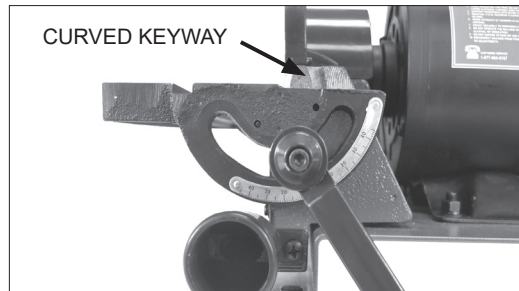

FIG. 10
24. Line the disc sanding table's slotted right end with the curved keyway in the sanding disc base. Position it in the keyway so that the handle can be installed, fastening the parts together. FIG. 10.